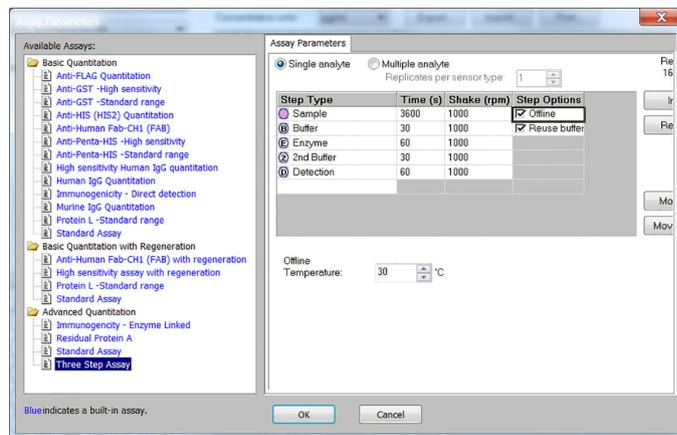

Figure 9: Settings for Advanced Quantitation assays for HCP detection on 8- and 16-channel Octet systems.
3. Launch Octet® BLI Discovery Software and choose the **Advanced Quantitation** option in the Experiment wizard. In the Assay Settings window, click **Modify** to set up the assay parameters as shown in Figure 9. Note that the sample step is specified to have been carried out offline.
- b. Define the Detection Plate layout to correspond to the appropriate layout in Figure 9:
- b. The layout of the second plate (Plate 2) is defined to correspond to the appropriate Detection Plate layout in Figure 9 where: